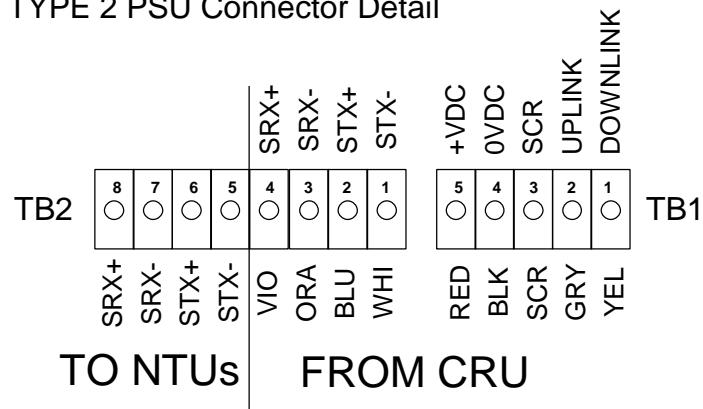

Figure 37. ISDN Drop Cable Connections to AC PSU (Type 2)
1. At the PSU terminate the wires of the drop cable with the red insulated terminal pins and screw to the terminal blocks(TB1 & TB2). Figure 37 below, illustrates the connections of the drop cable to the connector blocks inside the AC PSU.